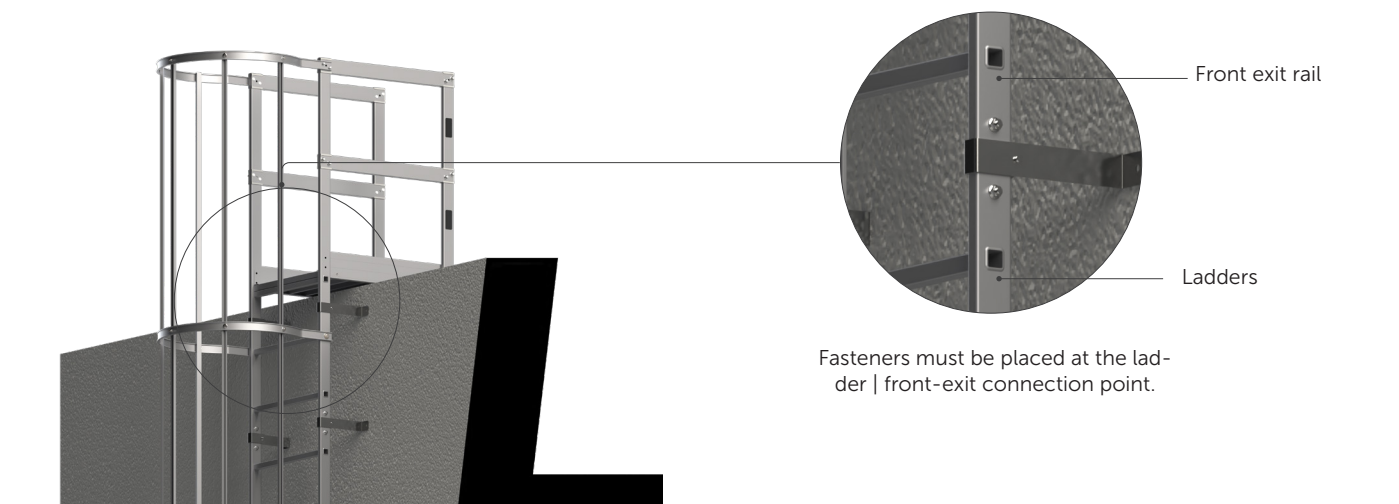

Figure 1
**IMPORTANT:** It is recommended to install the support feet fastener kit at the same level as the ladder-to-front exit junction as shown in Figure 1. Fastening is carried out using a single screw inserted into a threaded hole, allowing for extremely quick installation.
To install the rod connection kit, follow the steps shown in **Figure 1**. Once installation is complete, insert the rod end cap as shown in **Figure 2**.